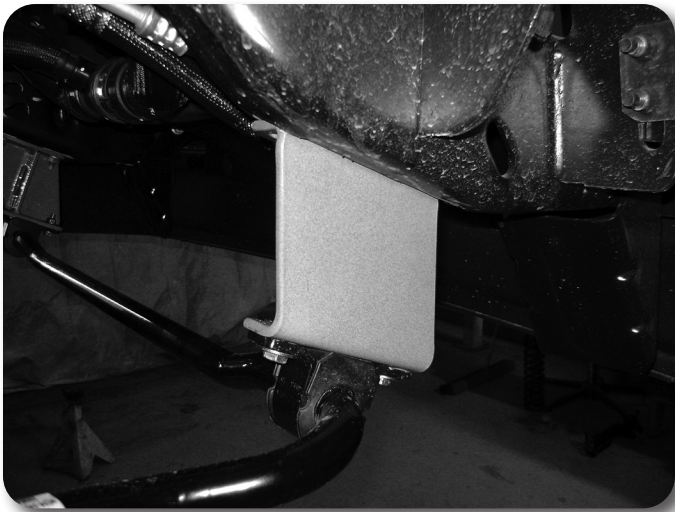

Figure 13
34. Locate the new sway bar drop brackets. Install the brackets on the frame with the original sway bar mount hardware. When installed the brackets should offset toward the front of the vehicle and the open face point to the inside. **Figure 13** Leave hardware loose.